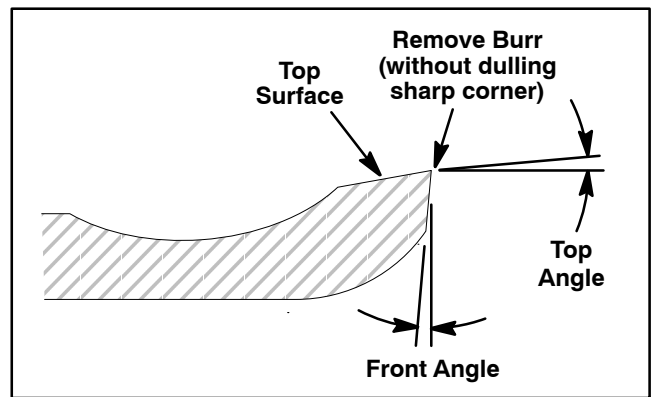

Figure 23
10. For a better cutting edge, run a file across the front face of the bedknife when the lapping operation is completed (Fig. 23). This will remove any burrs or rough edges that may have built up on the cutting edge.